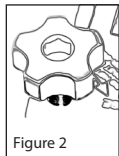

Figure 2
- Do not over turn the pivoting mechanism located on the retractor frames. Forcing the pivoting mechanism past stop may cause damage to the device (Figure 2).